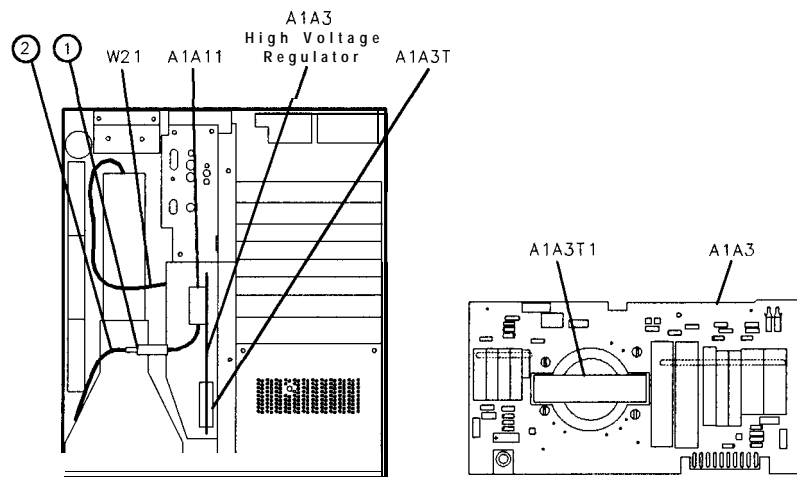

Figure 3-11. Discharging the CRT Post-Accelerator Cable
2. Locate the snap connector on the CRT post-accelerator cable. It is shown in Figure 3-11 as item 1. Using a long flat-bladed screwdriver with an insulated handle, carefully pry the connector loose but do not disconnect the cable.
- a. Using one hand, remove the end of the cable labeled item 2 in Figure 3-11. As the end of the cable becomes free, touch the end of the cable to the CRT's metal cover. A large arc of high voltage should ground to the CRT cover. The CRT is not discharged yet!